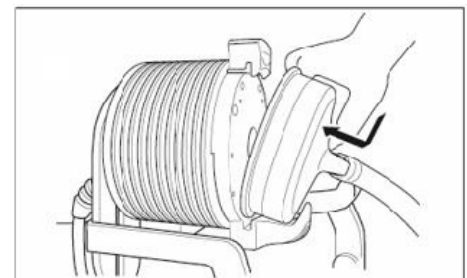

Figure 4
② Insert the rim of the centrifugal pump into the fixed hook of the drive motor (Figure 4).